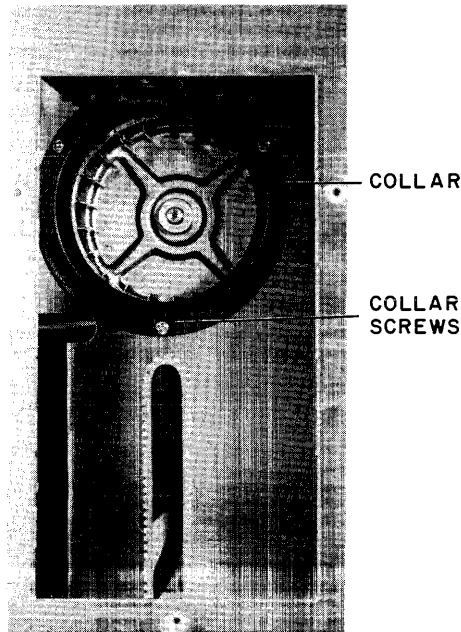

Figure 5-14 Blower Collar Removal
8. Remove the three screws attaching the blower collar (Figure 5-14) to the electronic module and pull the collar through the prefilter opening.
3. Insert the collar (Figure 5-14) through the prefilter opening and attach it with the previously removed hardware.